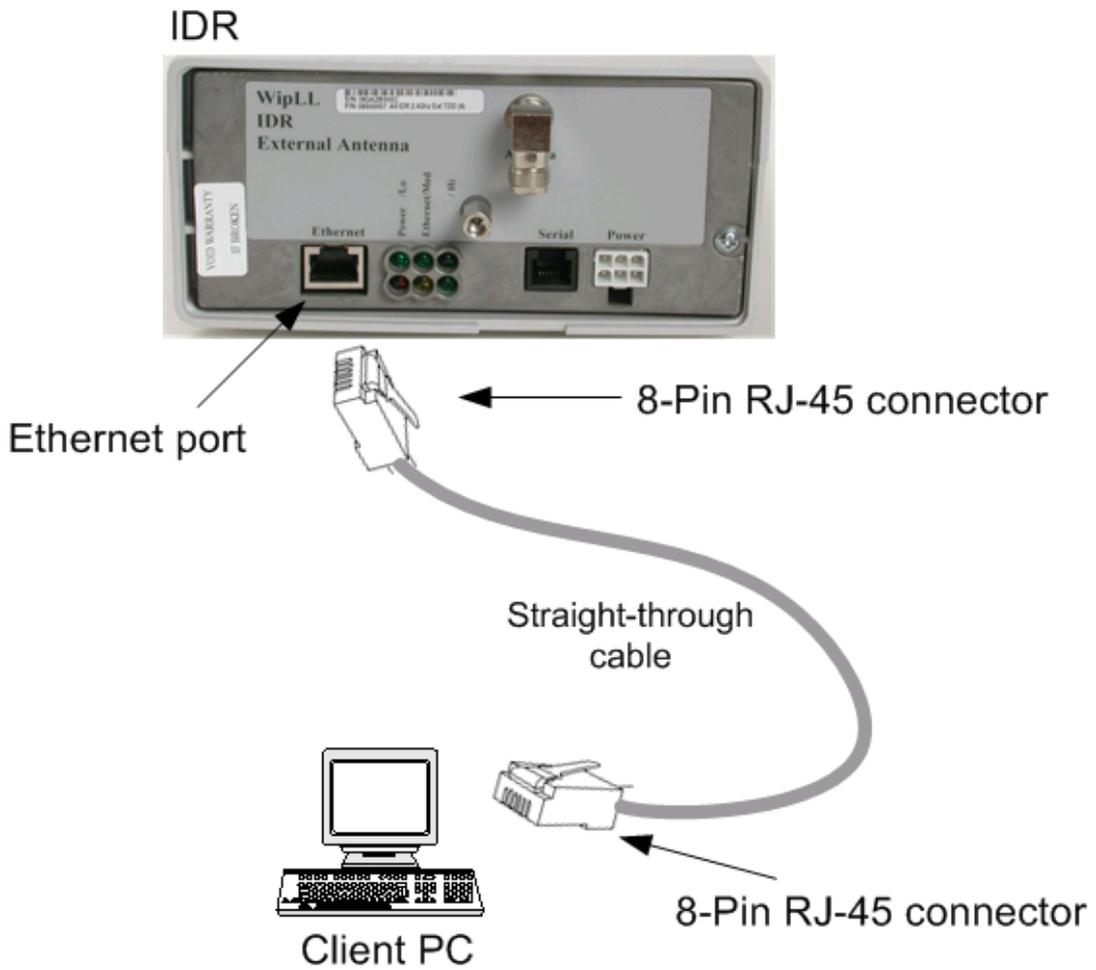

Figure 12-11: Connecting IDR to a client PC
1. Attach the 8-pin RJ-45 connector, at one end of the cable, to the IDR's Ethernet port, labeled **Ethernet** (see Figure 12-11).
2. Attach the 8-pin RJ-45 connector, at the other end of the cable, to the PC's LAN port (see Figure 12-11).